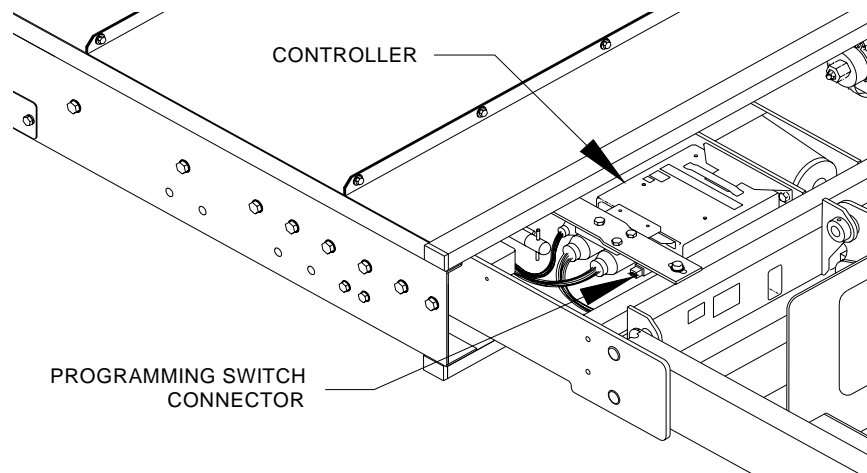

Figure 3: Programming Switch Connector
- g. Refer to **Figure 3**. The connector that the programming switch will be connected to is attached to the underside of the controller bracket. The connector is protected with a removable plug. Connect programming switch to connector.